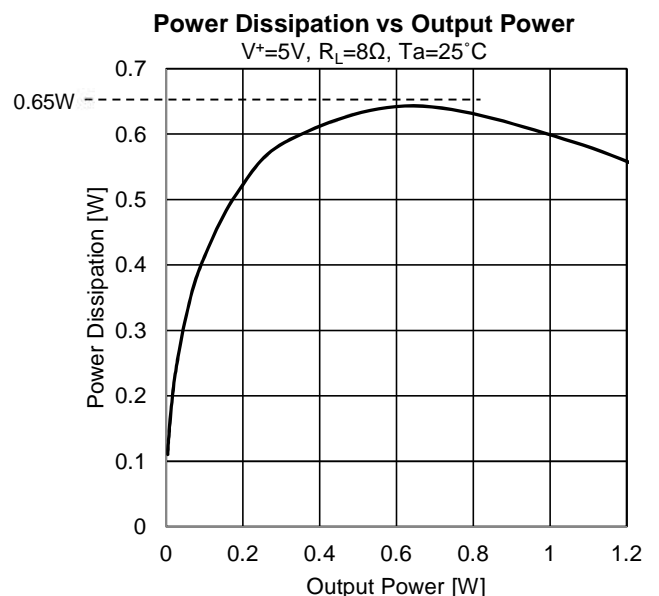

Fig. 19 Power Dissipation vs. Output Power
In the designing, power dissipation (P) should be verified in the using but temporary value is read by Power Dissipation vs Output Power on the datasheet's typical characteristics. Fig.19 shows typical characteristics under the conditions that $T_a=25^{\circ}\text{C}$, $V^+=5\text{V}$, $G_v=+6\text{dB}$ and $R_L=8\Omega$ BTL. The following are examples.
Maximum ambient temperature T_a is set by the following under the conditions that $V^+=5\text{V}$, $R_L=8\Omega$ BTL and maximum output power $P_o=1.2\text{W}$ because maximum power dissipation (P) is approximately 0.65W by Fig. 19.
Maximum output power (P_o) is gotten approximately 0.2W or under by Fig. 19 under the conditions that $V^+=5\text{V}$, $R_L=8\Omega$ BTL, $P_D=0.5\text{W}$ and $T_a=60^{\circ}\text{C}$.